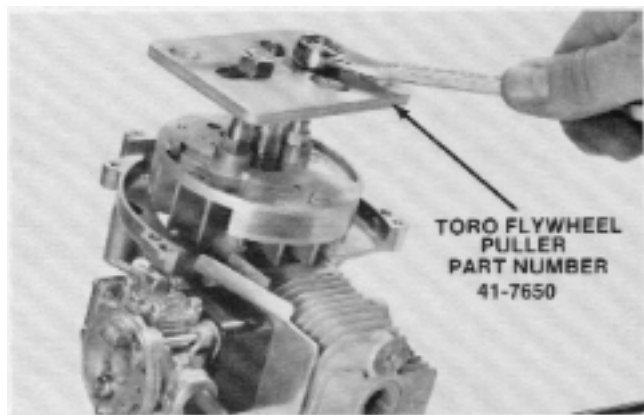

Figure 76
5. Remove the flywheel using Toro flywheel puller part number 41-7650. See Figure 76.